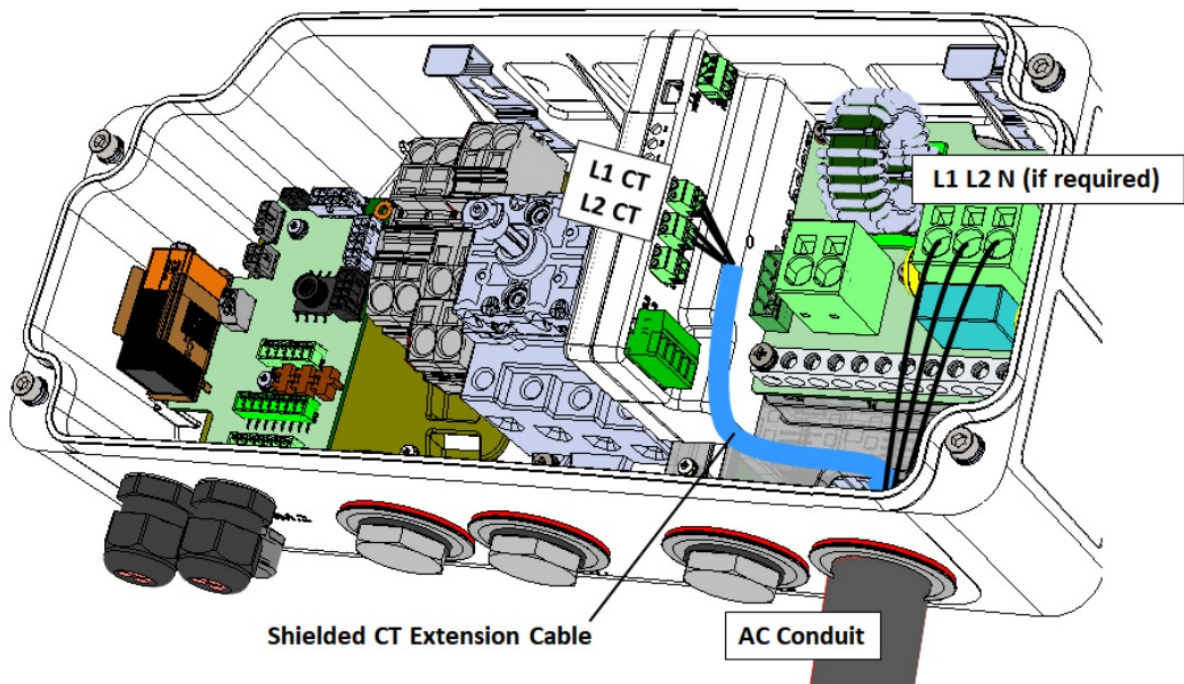

Figure 4: AC and CT Wiring Diagram
4. Connect the AC wiring – L1, L2, and N (if required) – to the designated terminal block as shown in Figure 4 below.